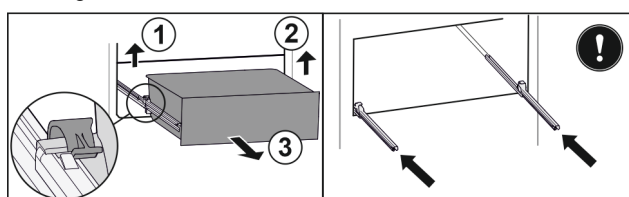

Fig. 121
- Lift left clamp and simultaneously pull drawer forwards on the left. Fig. 121 (1)
- Lift right clamp and simultaneously pull drawer forwards on the right. Fig. 121 (2)
- Remove drawer to the front. Fig. 121 (3)